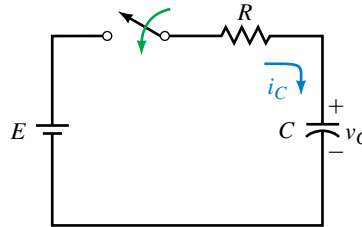

FIGURE 11–11
1. Determine additional voltage and current points for Figure 11–10 by computing values of v_C and i_C at values of time from $t = 0$ s to $t = 500$ ms at 100-ms intervals. Plot the results.
2. The switch of Figure 11–11 is closed at $t = 0$ s. If $E = 80$ V, $R = 4$ k Ω , and $C = 5$ μ F, determine expressions for v_C and i_C . Plot the results from $t = 0$ s to $t = 100$ ms at 20-ms intervals. Note that charging takes less time here than for Problem 1.
EXAMPLE 11–3 For the circuit of Figure 11–11, $E = 60$ V, $R = 2$ k Ω , and $C = 25$ μ F. The switch is closed at $t = 0$ s, opened 40 ms later and left open. Determine equations for capacitor voltage and current and plot.
Voltage starts at 0 V and rises exponentially. At $t = 40$ ms, the switch is opened, interrupting charging. At this instant, $v_C = 60(1 - e^{-(40/50)}) = 60(1 - e^{-0.8}) = 33.0$ V. Since the switch is left open, the voltage remains constant at 33 V thereafter as indicated in Figure 11–12. (The dotted curve shows how the voltage would have kept rising if the switch had remained closed.)